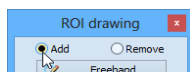

Figure 264 – Set Add/Remove mode for contour editing
2. Select the adding contour mode (see Figure 264). To add a drawn contour to the ROI, check the **Add** radio button. To remove a drawn contour from the ROI, check the **Remove** radio button.